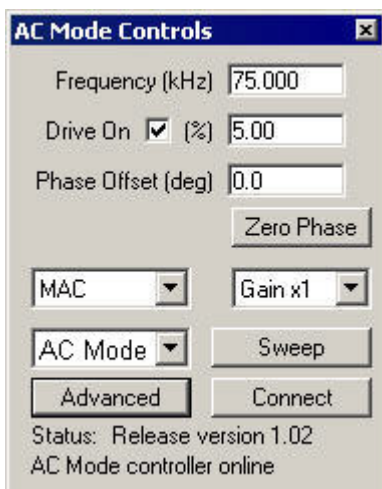

Figure 8 (The Main page of the AC Mode Controls dialog)
2. Select the **Drive On** checkbox and enter the drive percentage of  $\sim 0.5\%$  for imaging in air and  $\sim 5.0\%$  for imaging in water. See Figure 8 below.
3. In the **AC Mode Controls** dialog, select **MAC**, **AC Mode** and **Gain x1** in the three drop-down menus. See Figure 8 below.